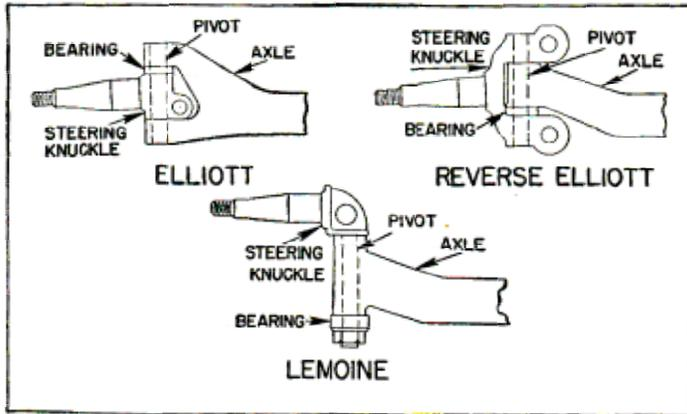

FIGURE 19.—Front axle designs.
c. Elliott.—The ends of the Elliott axle (fig. 19) are forked so that the steering knuckle can be inserted between the forked ends and held there by the steering knuckle pivot, which is inserted through bushings and locked to the steering knuckle by a tapered pin through the slot in the pivot. The Elliott type front axle has not been used much since the introduction of front wheel brakes.
d. Reverse Elliott.—In this type of axle, the steering knuckle is forked and the axle end fits inside the fork (fig. 19). The steering knuckle pivot is inserted through upper and lower bushings in the steering knuckle and is locked in the axle end by a tapered pin through the slot in the pivot. This design is much more adaptable for use with front wheel brakes. It also permits a simpler steering ar-